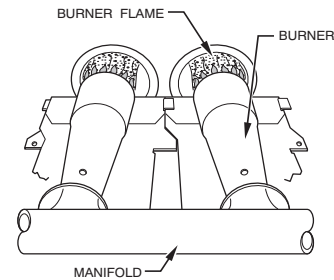

Fig. 65 – Burner Flame
- i. When correct input is obtained, replace cap that conceals gas valve regulator adjustment screws. Main burner flame should be clear blue, almost transparent, see Fig. 65.